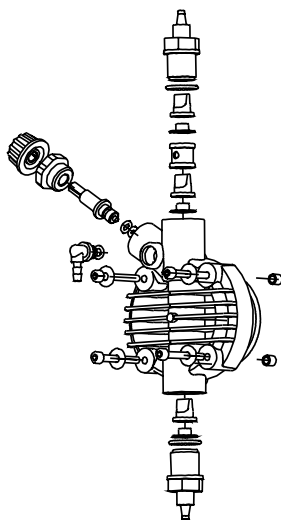

Fig. 12
- the additive concentration in the pipework; a reduction of this concentration could be caused by the wearing of the valves, in which case they need to be replaced (Fig. 12) or by the clogging of the filter which then has to be cleaned as in point 3 here below.
This operation can also be done with the pump disconnected from the plant by turning the pump upside-down for 15 to 30 seconds and without connecting the hose to the nipples; if impossible, dismount and remount the pump head (Fig. 12) using the four mounting screws.